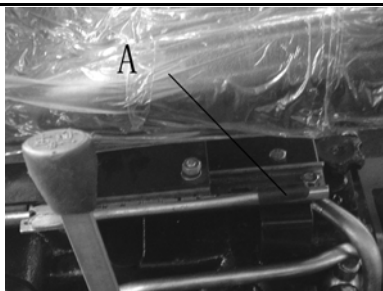

Figure 2-23 Driver's Seat Adjustment
- The farm machine will lower when the adjustment valve (A) is turned in a clockwise direction.
- When turning the regulating valve (A) counterclockwise, the lowering speed of the farm machinery will increase. (See figure 2-23)